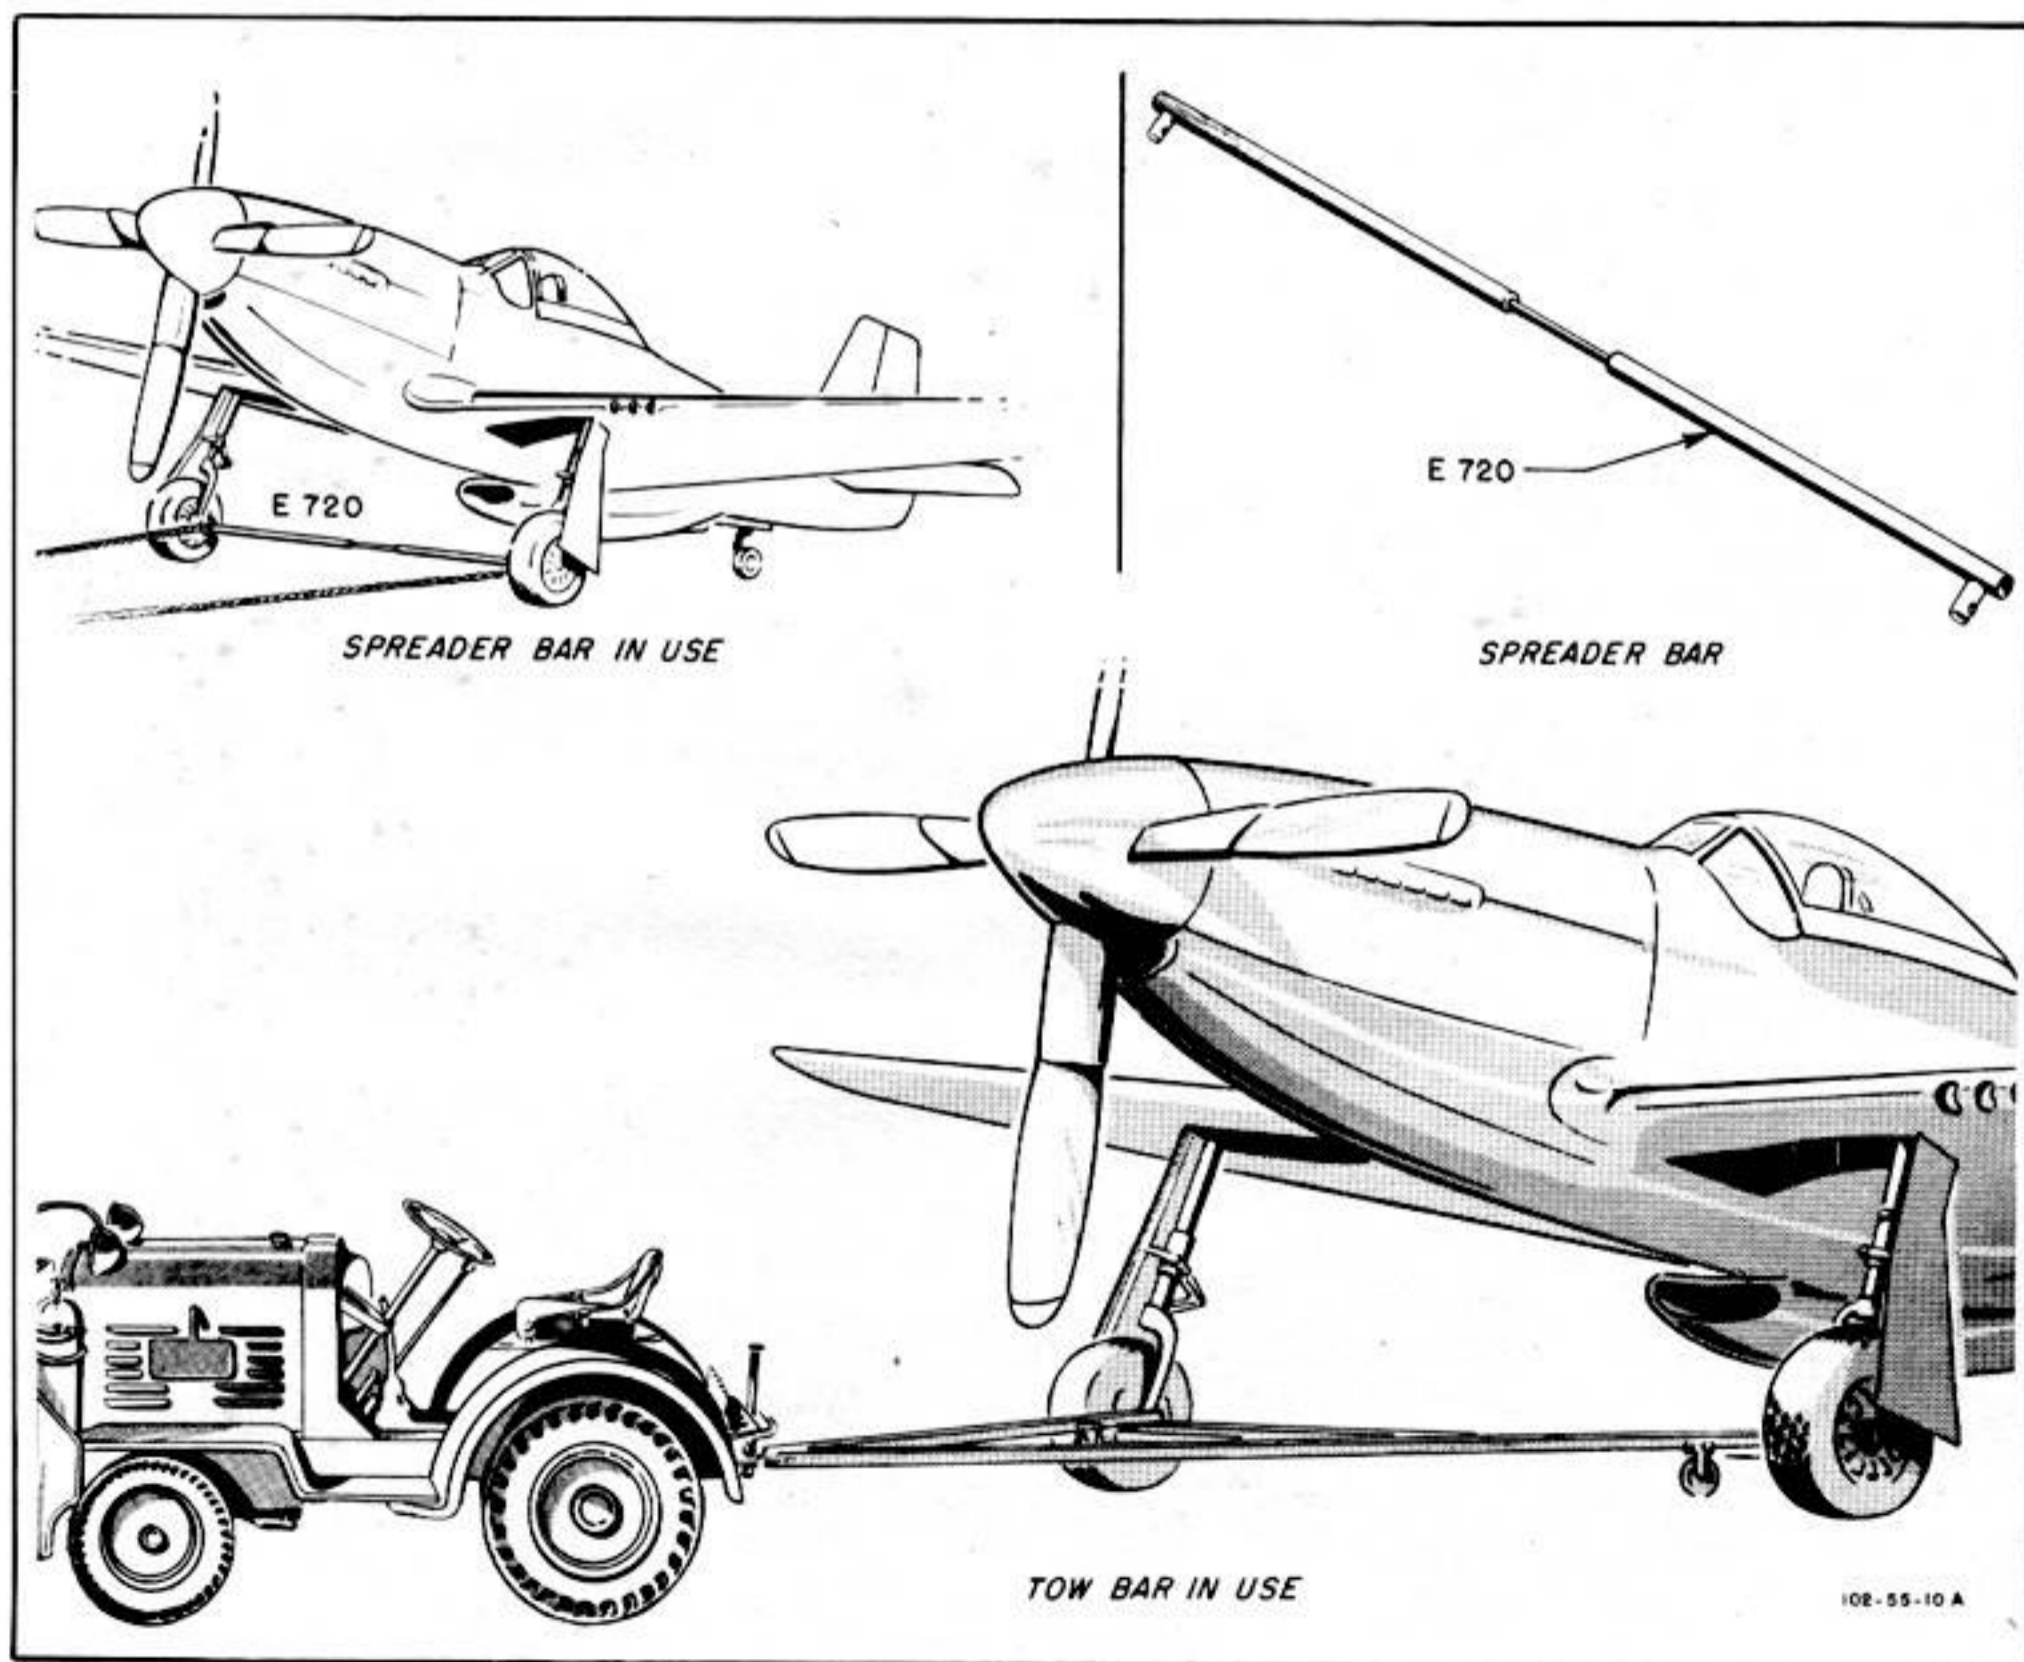

Figure 65—Towing the Airplane
g. TOWING.—A towing ring is at the inboard end of each main landing wheel axle. The use of an E715 tow bar will facilitate towing the airplane within an area limited by ground equipment or other aircraft. (See figure 65.) If tow ropes are used, an E720 spreader bar or some similar bar arrangement will prevent the landing gear from collapsing should the landing gear control handle be inadvertently moved. Release the parking brakes and unlock the tail wheel before attempting to move the airplane. When the airplane is being towed near other equipment, station one man in the